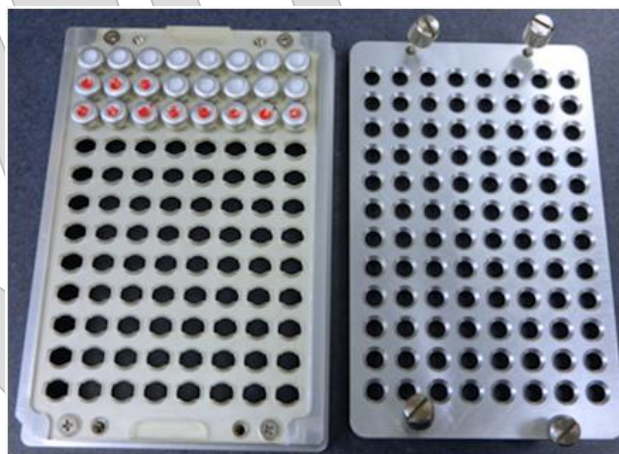

Figure 6: A partially filled microTUBE rack showing empty tubes, marked in red, surrounding the samples to reduce splashing.
6.1. The MicroTUBE plate, MicroTUBE rack can now be loaded. For a partial plate, load the unused positions in that column and the adjacent column with red-marked empty tubes to reduce splashing. See Figure 6 below.
- 6.3. Specify the columns you plan to run. To add columns, highlight the last entry in the table as shown in Figure 6 and then click on the column in the plate view on the left (should turn yellow after selection). To remove columns, highlight the column in the table and click on the “Remove Selected” at the lower right corner of the window.